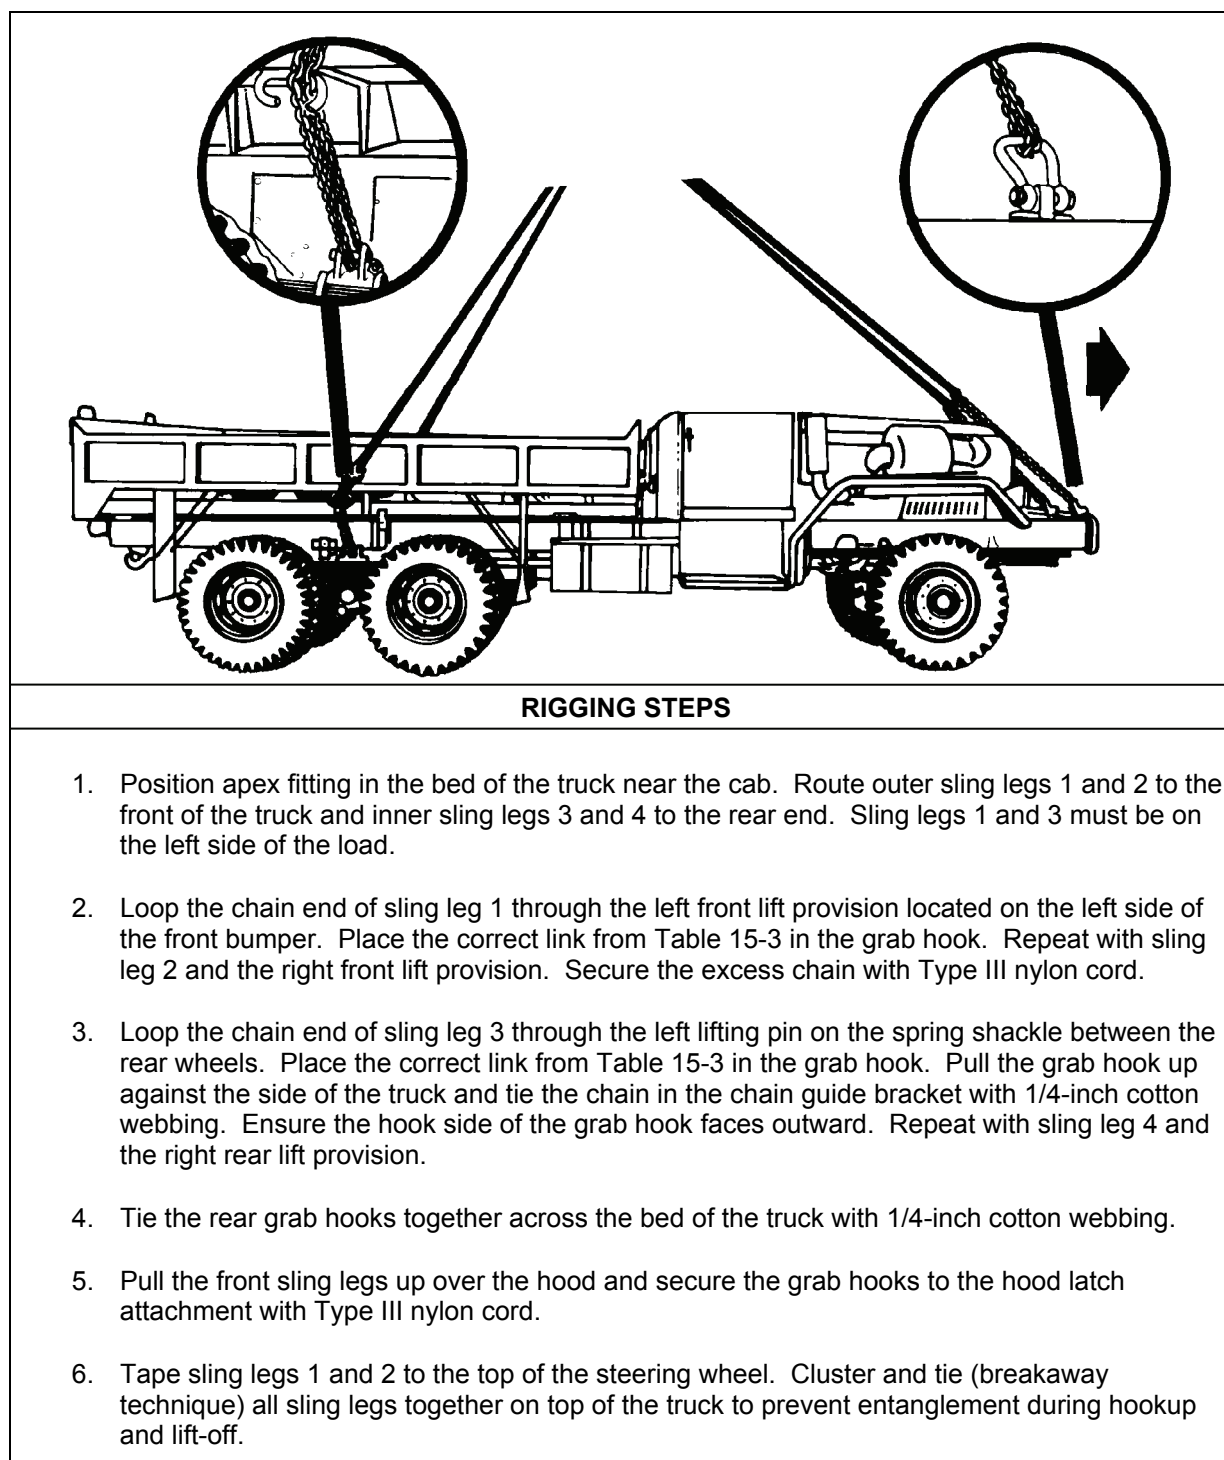

Figure 15-3. M54A2 5-Ton Cargo Truck with Winch
- **Rigging.** Rig the load according to the steps in Figure 15-3.